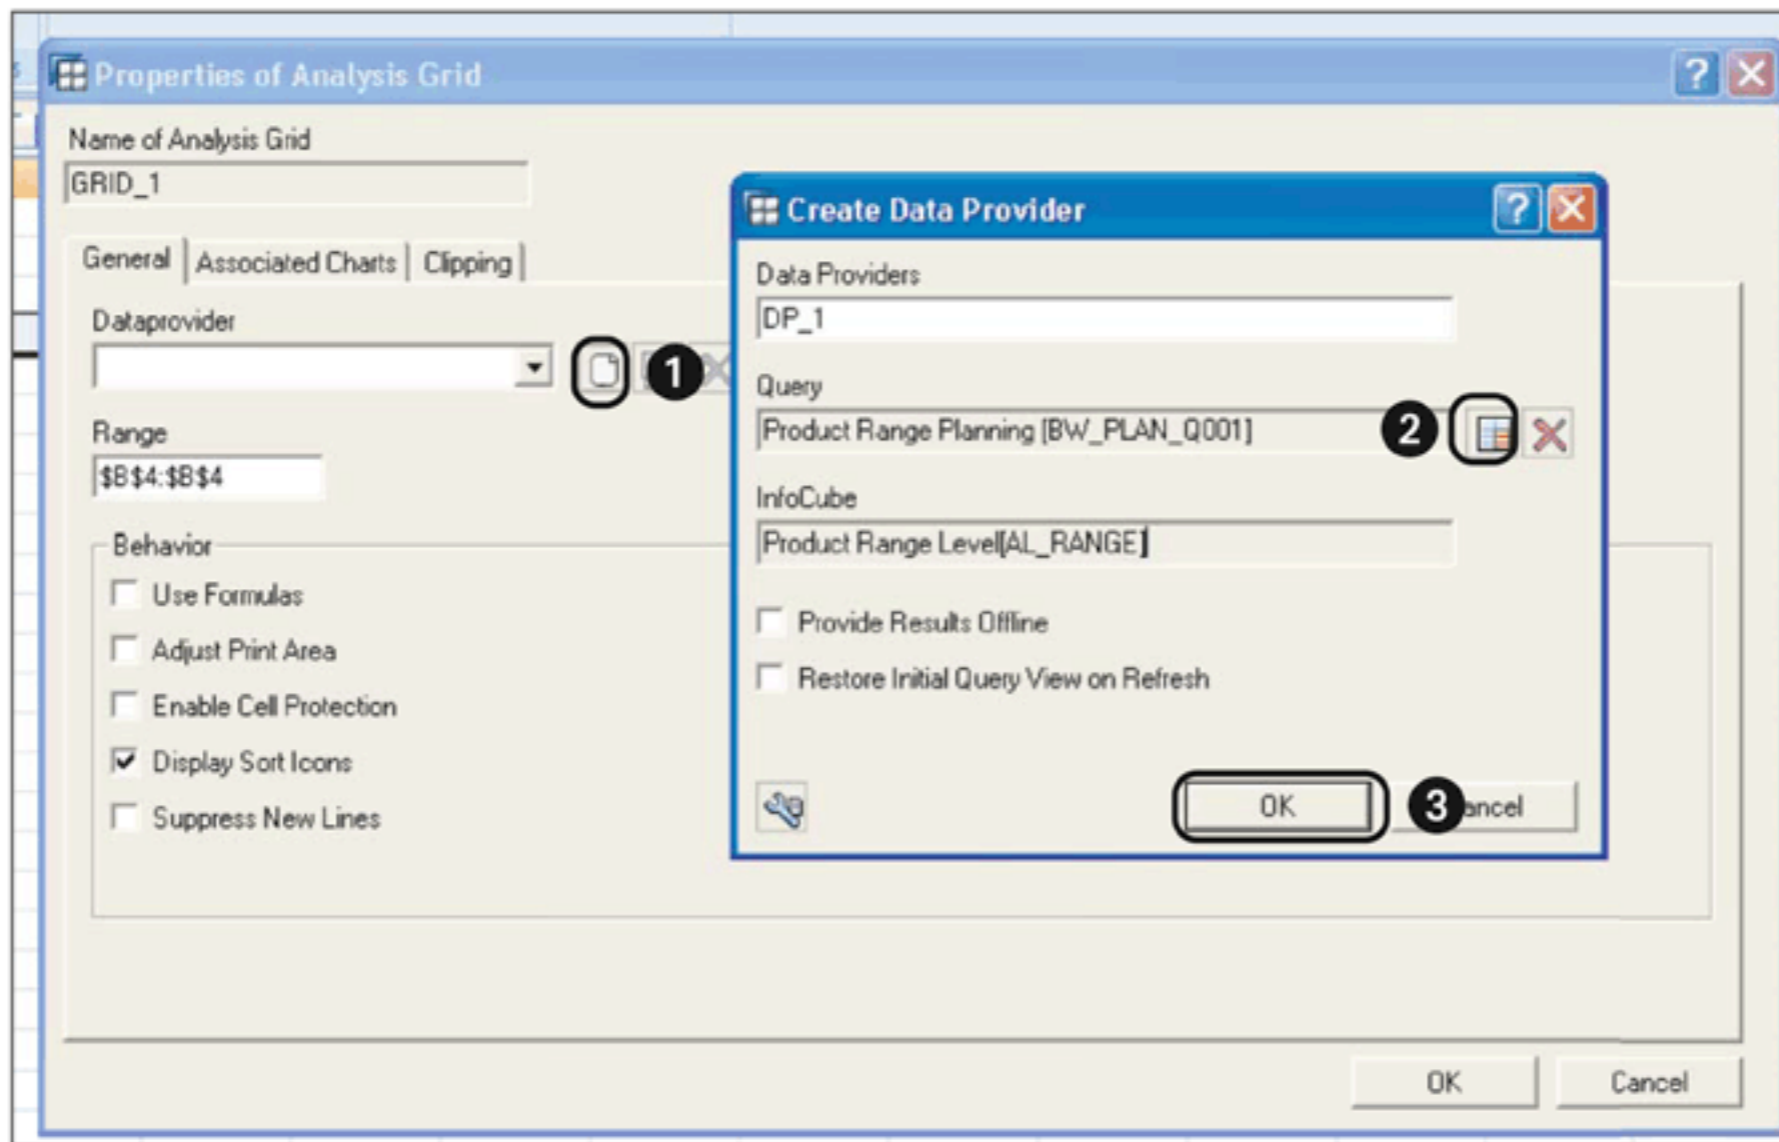

Figure 12.64 Assign Input-Ready Query to Analysis Grid Item
the input-ready query to the analysis grid in the properties (accessed from the ANALYSIS GRID context menu) of the design item. For this, first create a new data provider by clicking on the CREATE button (❶ of Figure 12.64). Assign the input-ready query to the data provider using the button shown in ❷. Assign this data provider to the analysis grid item by clicking on OK (❸).